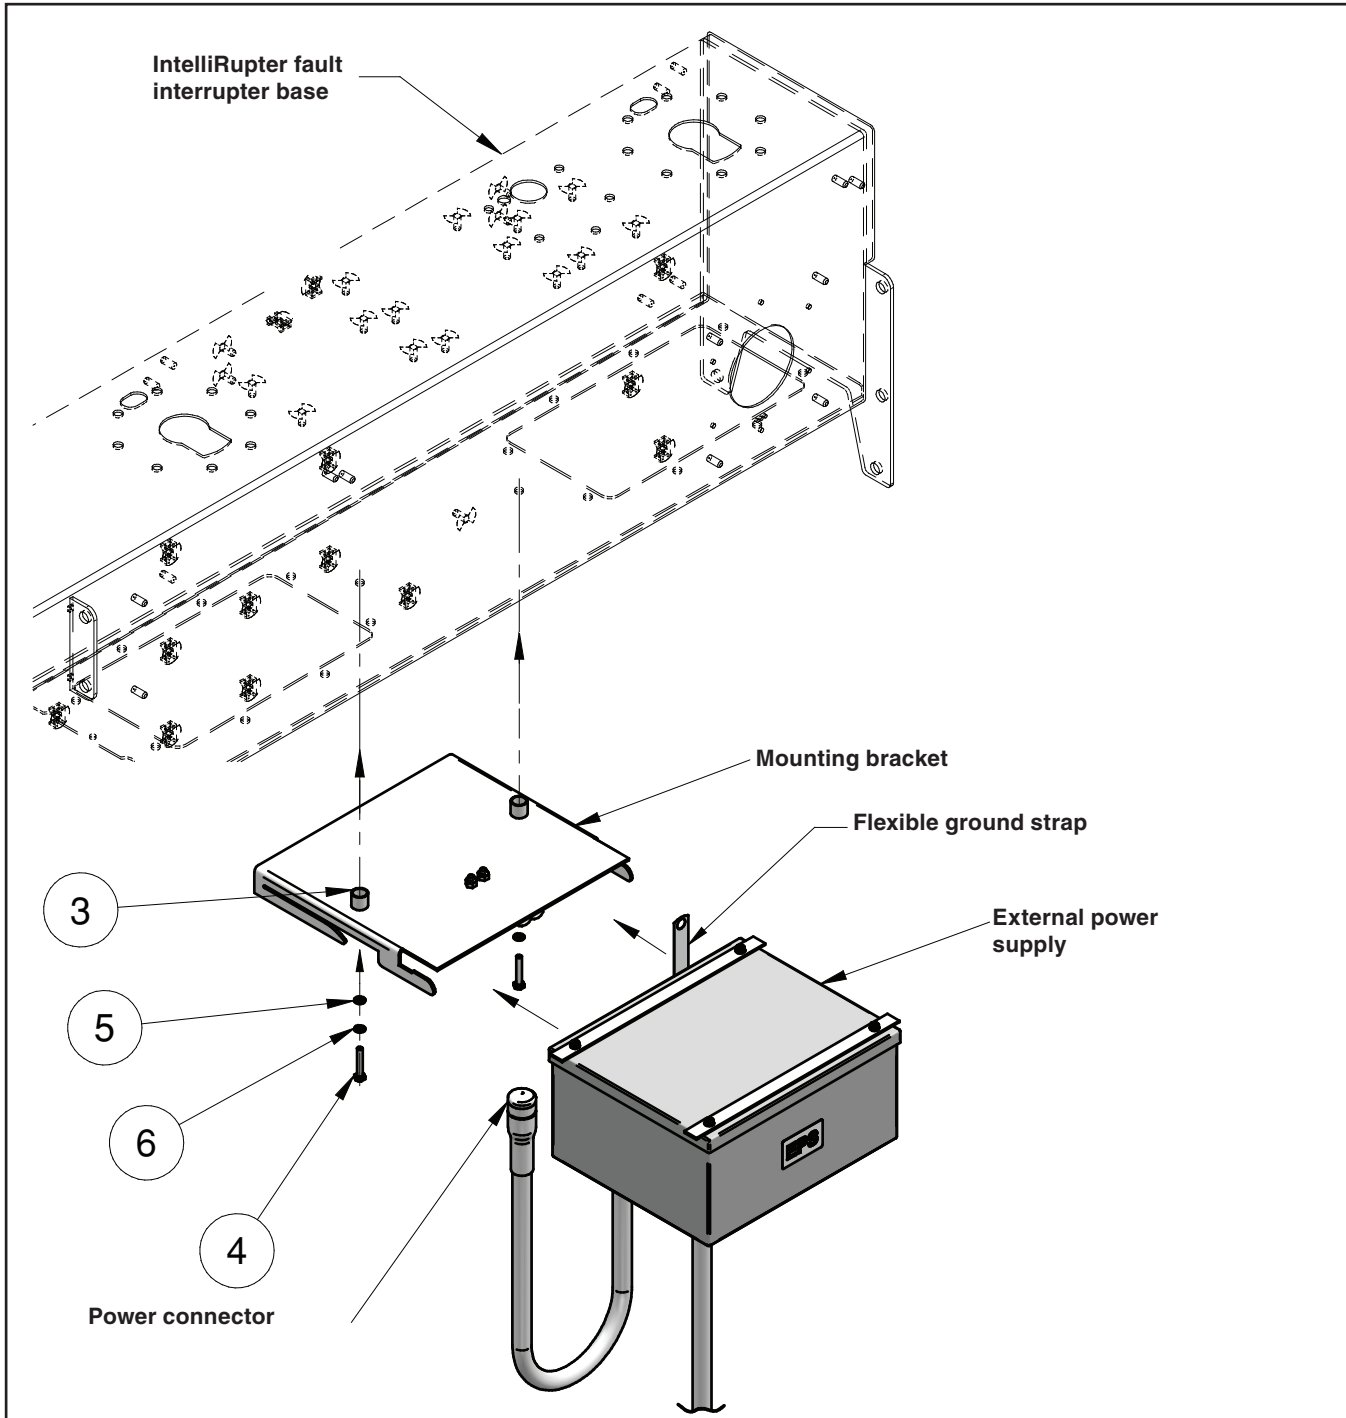

Figure 2. Mounting the external power supply to IntelliRupter fault interrupter base.
STEP 1. Install the mounting bracket (SDA-4901) to the bottom of the IntelliRupter fault interrupter base; hardware reference numbers are indicated. See Figure 2.